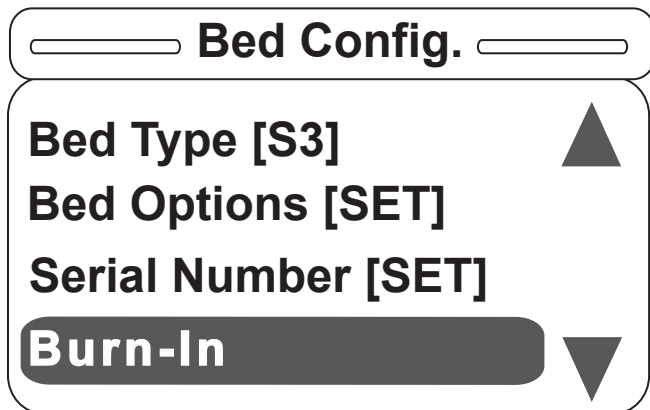

Figure S-31
29. Hitting “Exit” on the footboard panel while in the Serial Number screen will return the user to the Bed Config main menu as shown in Figure S-31. Note that the user can see the state of the items previously set.